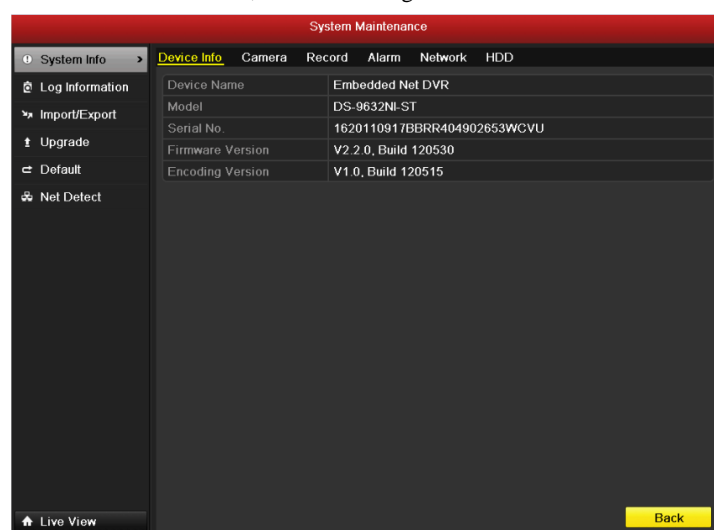

Figure 12.1 Device Information Interface
2. Click the **Device Info** tab to enter the Device Information menu to view the device name, model, serial No. , firmware version and encode version, as shown in Figure 12.1.